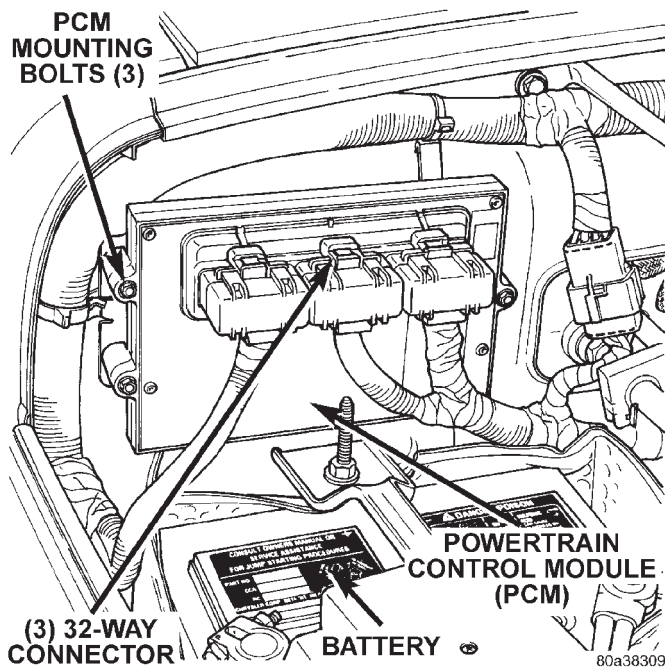

Fig. 47 PCM Location
The PCM is located in the engine compartment (Fig. 47).
- (1) Disconnect negative battery cable at battery.
- (2) Remove plastic shield from over 32-way connectors. Shield snaps to connectors.
- (3) Carefully unplug three 32-way connectors (Fig. 47) from PCM.
- (4) Remove three PCM mounting bolts and remove PCM from vehicle.